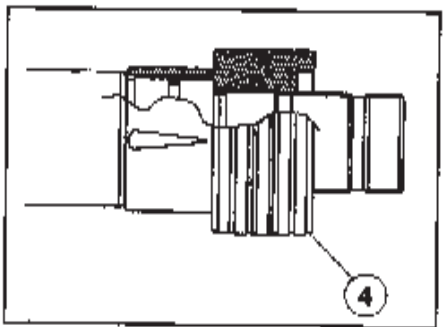

Fig. 22
- 4 Put the piston on. Please note the direction! (Fig. 22).